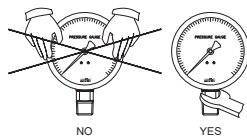

Figure 6
- 7) Do not hold the casing to turn. Always use specified wrench as in Figure 6.